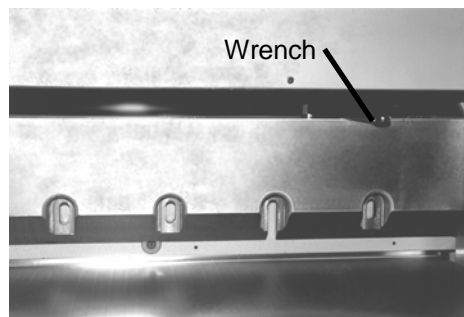

Figure 19
10. Turn the knife adjusters down, a little at a time (Figure 19), until the blade cuts through the paper evenly, the length of the stick. Be sure the blade is parallel to the cutting stick, or one end may cut deeper than the other, causing uneven wear on the stick.